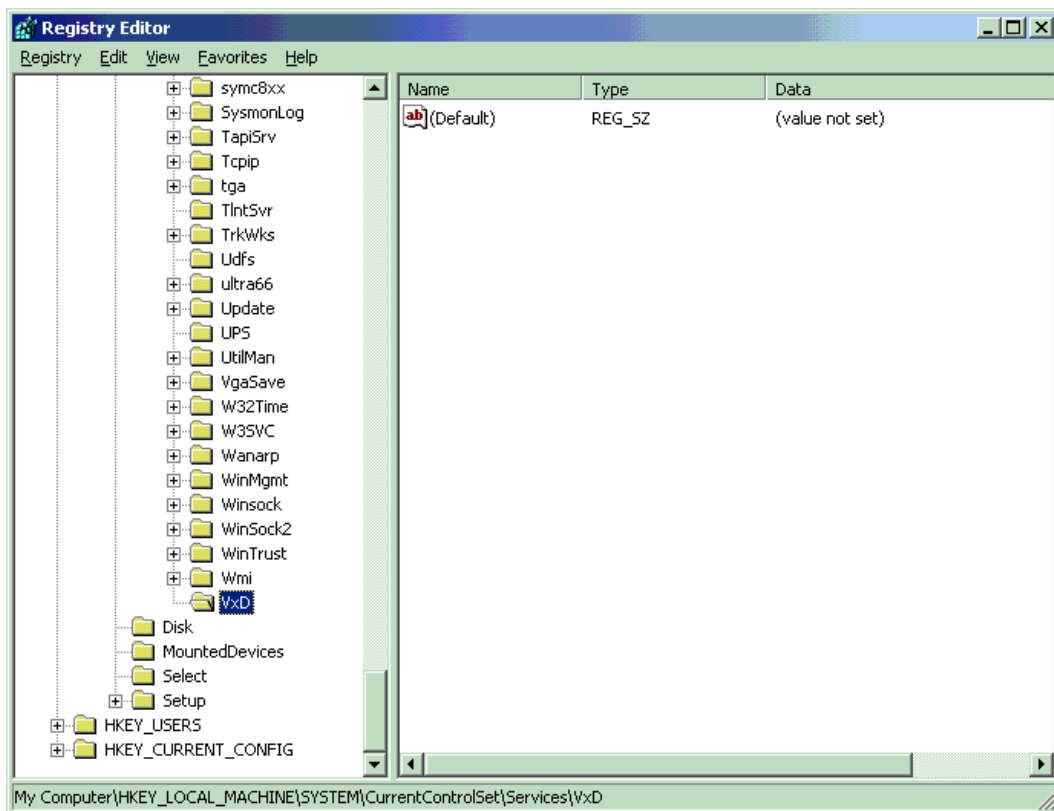

Figure 51: Windows'95 Registry Editor
- In the next step the driver will be included in the *registry* table : Please use the `REGEDIT` application in the `WINDOWS95` - folder. Please step through the registry key tree `HKEY_LOCAL_MACHINE\System\CurrentControlSet\Services` until you reach `VxD` (see *Figure 51*).